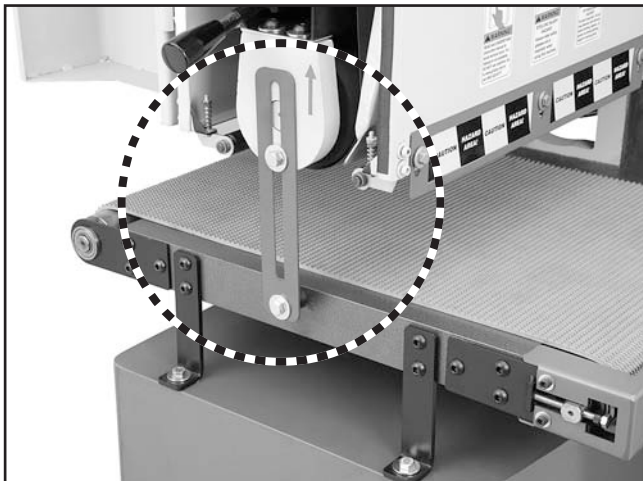

Figure 12. Location of the shipping brace.
8. Open the sanding belt access door on the left side of the machine, and remove the red shipping brace securing the sanding drum and the conveyor assembly (see **Figure 12**).